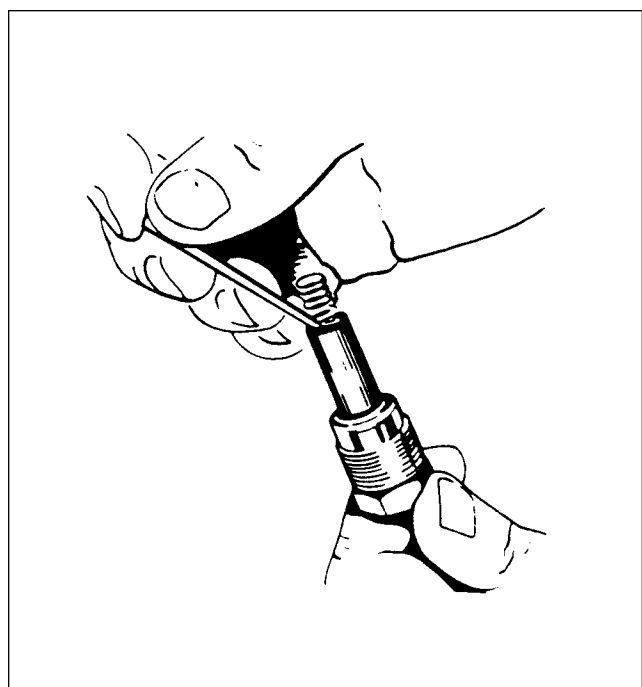

Figure 74-23. Removing Spring From Lead Assembly
1. Use a Bendix 11-7073 needle or a mechanical pencil with the lead retracted to hook end of contact spring as shown in figure 74-23.